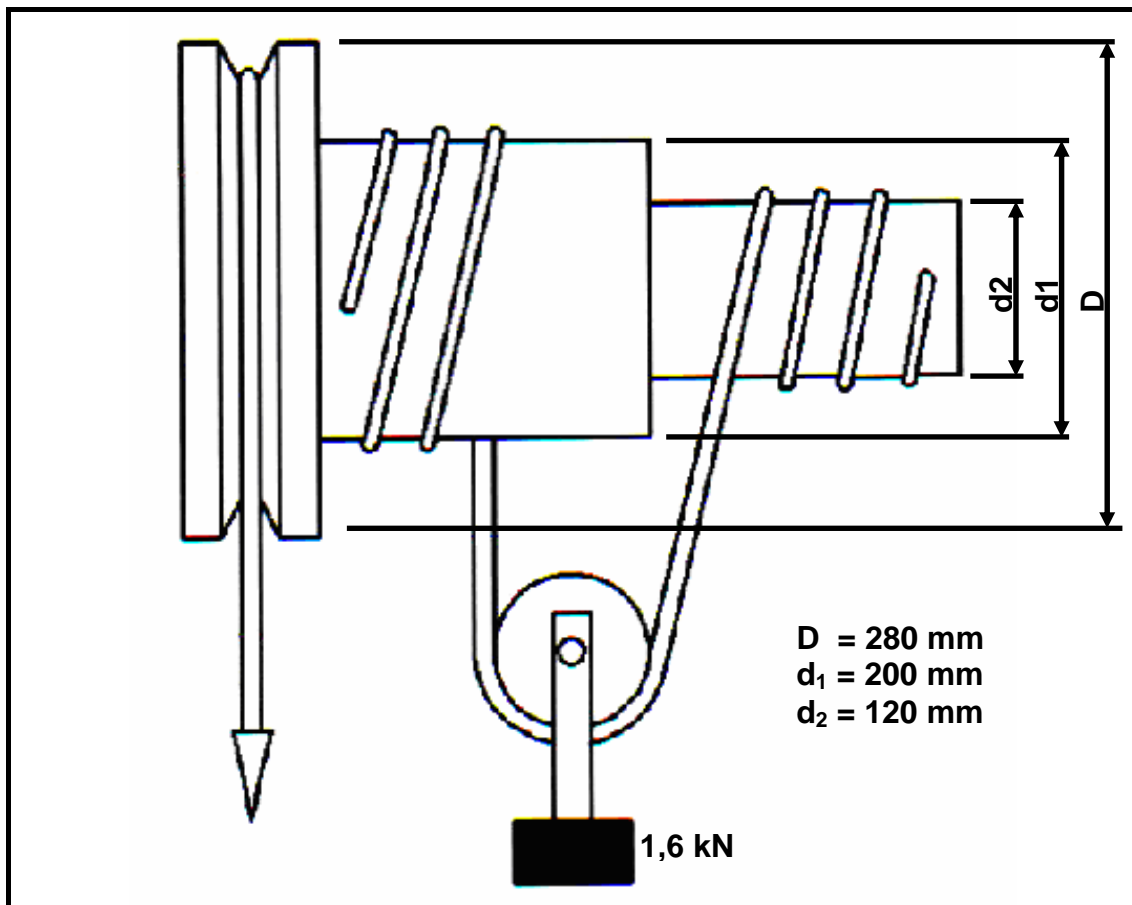

FIGURE 6.3
6.4 A differential wheel-and-axle lifting machine shown in FIGURE 6.3 has a mechanical advantage of 4. A load of 1,6 kN is lifted when an effort is applied. The diameters of the pulleys are 280 mm, 200 mm and 120 mm respectively.